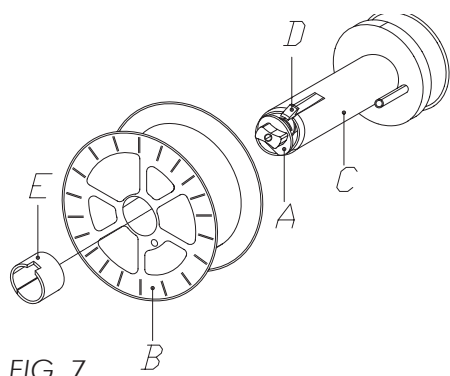

FIG. 7
SPOOL HOLDER AS FIG. 7 - 7A
- Open the side panel. Loosen the nut (A) of the spool holder (position 1) (brake drum). Remove the spacer (E, if present). In the case you are replacing the wire spool, extract it by pushing the snap tongue (D) (Fig 7).
- Remove the plastic protection from the spool. Place it on the spool holder. Mount the spacers again (E/F, only for 5kg spools; the smaller spacer E must be mounted between the spool and the spool holder). Then tighten the lock nut (A) turning it to position 2. (Fig. 7).
- Remove the wire spool (B) from the spool holder (C).
- Loosen the nut (A), remove the spring and the washer; remove the spool holder (C) from the pivot.
- Insert on the pivot the 100mm diameter wire spool; Mount the washer, the spacer (G) and the spring.
- Tighten the lock nut (A).
**! Tighten nut (A) to appropriate tightness. Excessive pressure strains the wire feeding motor. Too little pressure does not allow the immediate stop of the wire spool at the end of the welding.**